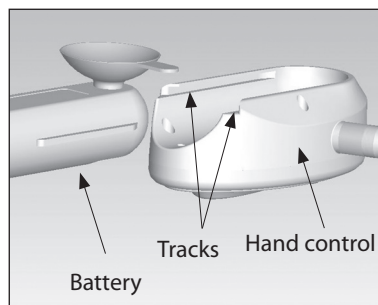

Figure 3
- Sliding the charged battery fully into the tracks on the hand control (**fig 3**);